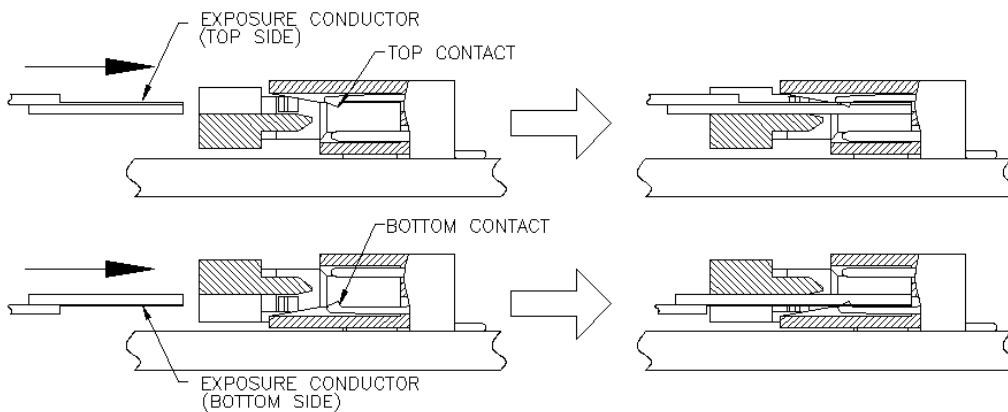

Figure 3.
- 2) Assure that the FPC/FFC is fully inserted parallel to mounting surface. (see figure 3)